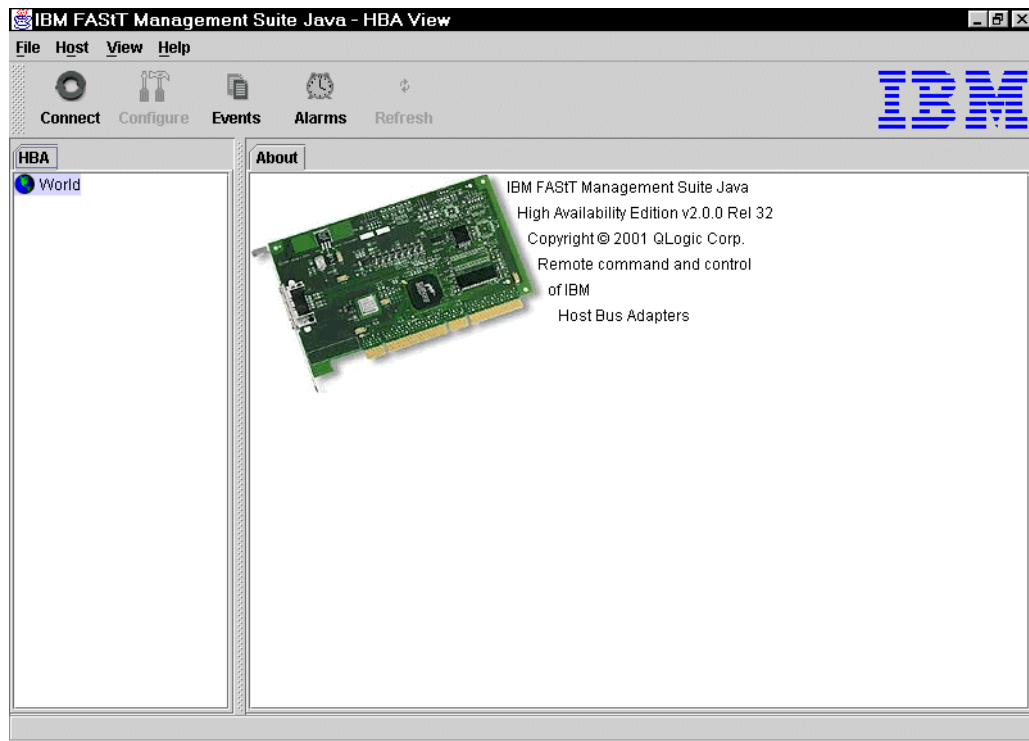

Figure 4-63 FAStT HBA view
2. The IBM FAStT Management Suite Java - HBA View window opens as shown in Figure 4-63.